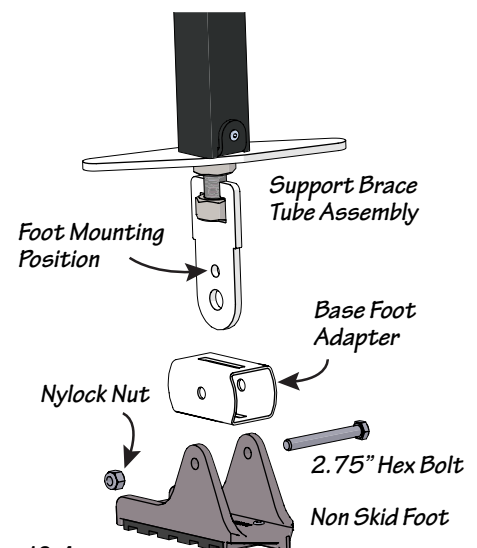

Fig. 19-4
- Secure the carriage bolt on the opposite side with a nylock nut. As shown right in Fig 19-4.